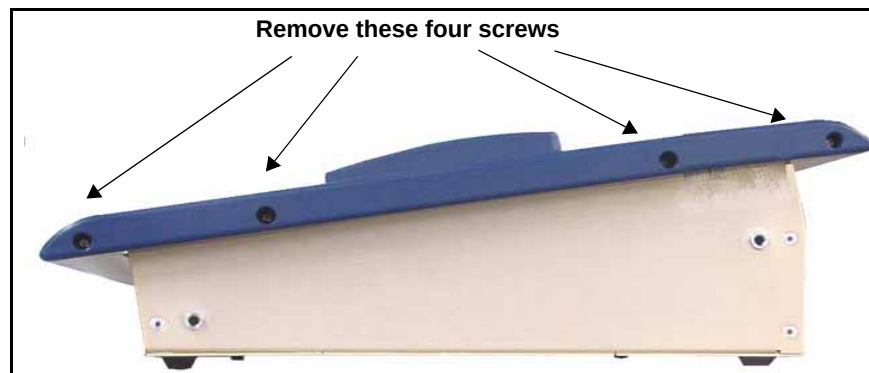

Figure 2-10. Removal of Trim for Rack Mounting
1. Remove the three or four screws on each side of the main control panel trim (see Figure 2-10)